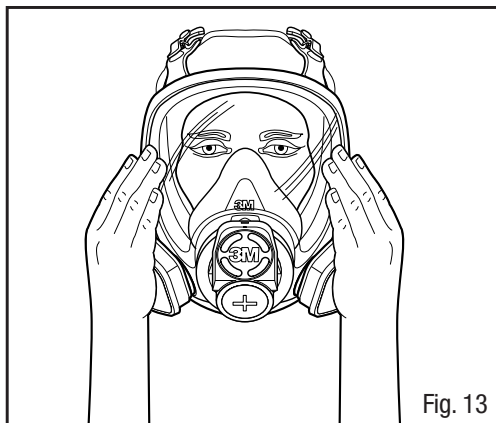

Fig. 13
1. Place palms of hands to cover face of cartridge or open area of 3M™ Filter Retainer 501 and inhale gently. If you feel facepiece collapse slightly and pull closer to your face with no leaks between the face and facepiece, a proper seal has been obtained (Fig. 13).